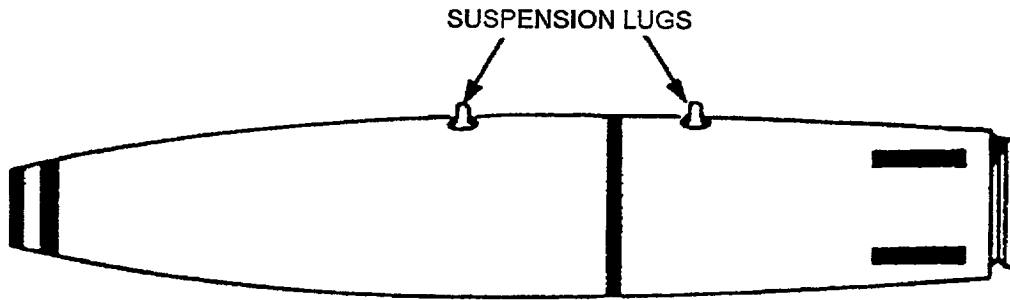

Figure 4-11A. Suspension Lug Installation
- b. Verify suspension lugs are screwed into lug wells until outer edge of bottom of lug eyes are flush with bomb body. In some cases, lugs may not screw flush; this is acceptable as long as there exists a 3-1/2 thread engagement. (Figure 4-11A).